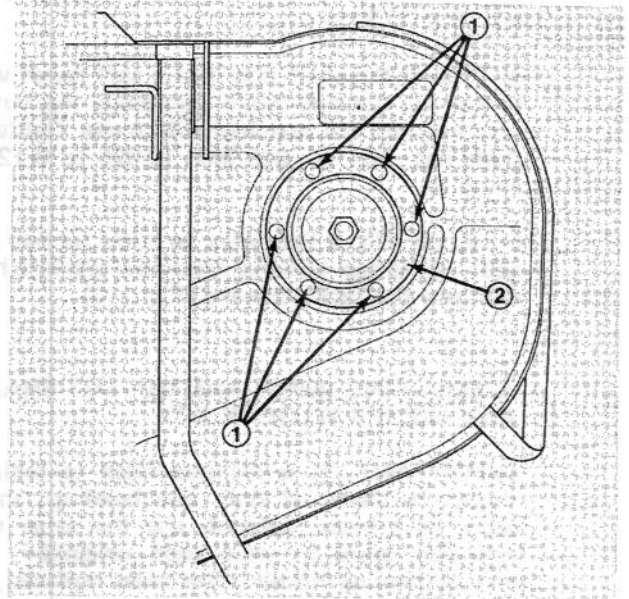

Figure 117
5. Remove six carriage bolts and flange nuts holding spindle housing assembly and support ring against cutting unit (Fig. 117). Slide spindle housing assembly out bottom of cutting unit.
9. Slide pulley end of spindle assembly through hole in cutting unit. Mount spindle assembly in place with support ring and six carriage bolts and flange nuts (Fig. 117).